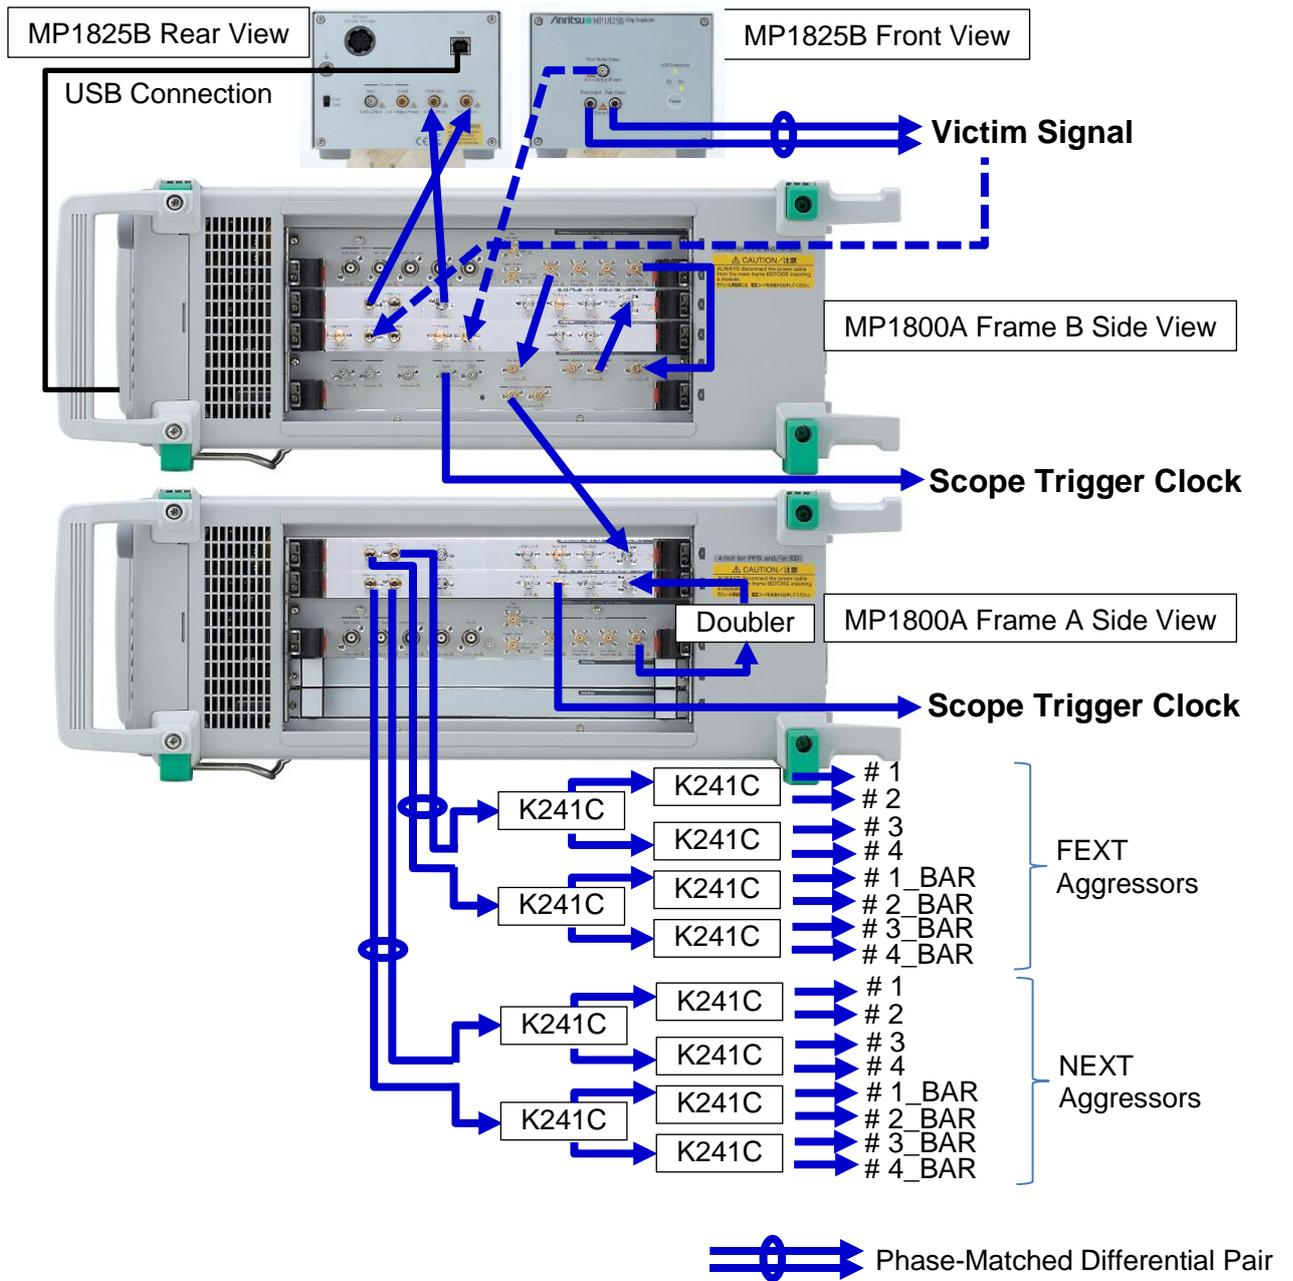

Fig. 3-2 Cabling of MP1800A, MP1825B and Divider Network
- (1) Cabling and connecting victim signal (See Fig.3-2)
- (2) Cabling and connecting seven aggressor signals (See Fig.3-2)
- When clock doubler of MP1825B is used, press [Auto Adjust] to adjust skew between the incoming Data and Clock. This function can be used when clock doubler of MP1825B is used. When the phase matched cable are used as shown in Fig.3-2, Auto Adjust is not required.